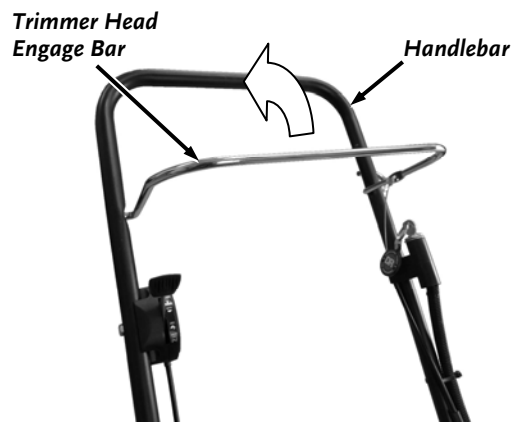
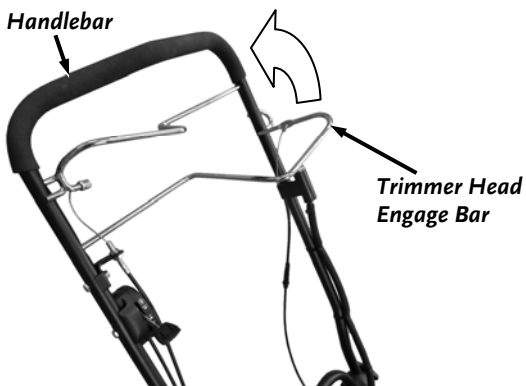

Figure 13
Figure 14
1. Bring the Trimmer Head Engage Bar toward you and grip it together with the Handlebar (non self propel **Figure 13**) (Self Propel **Figure 14**). Keep holding the Bar to the Handlebar. The Cutting Cords will rotate and will continue to rotate until you release the Bar.